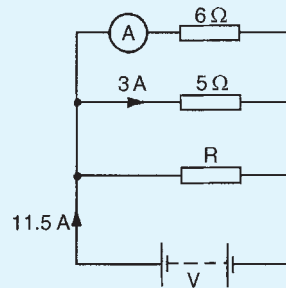

Figure 5.29
- For the circuit shown in Fig. 5.29 determine (a) the reading on the ammeter, and (b) the value of resistor R . [2.5 A , 2.5Ω]